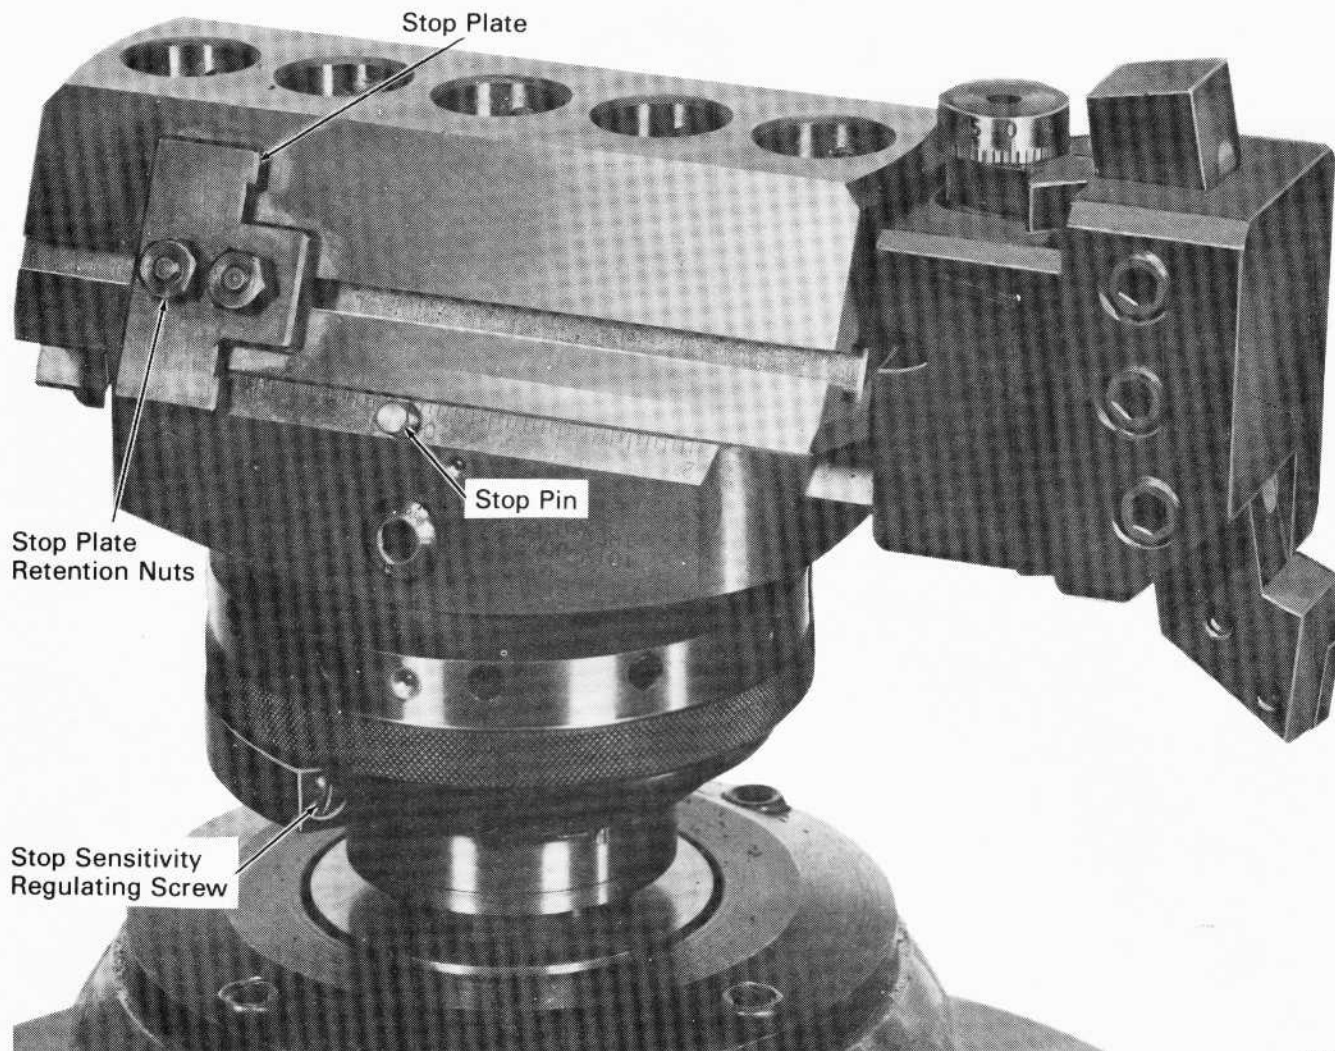

Fig.10 – Adjusting Automatic Feed Stop And Stop Sensitivity
1. Using a small open end wrench, loosen stop plate retention nuts, Fig. 10.
3. Slide stop plate toward stop pin, Fig. 10, until they touch. Tighten retention nuts.
A regulating screw, Fig. 10, is provided to adjust pressure required to release the retaining pin to stop feed travel. Tensile strength of the material being cut, depth of cut, and cutting speed are things to be considered when adjusting stop sensitivity. To maintain high sensitivity and long service life of the release mechanism, make certain that regulating screw is not tightened more than necessary.